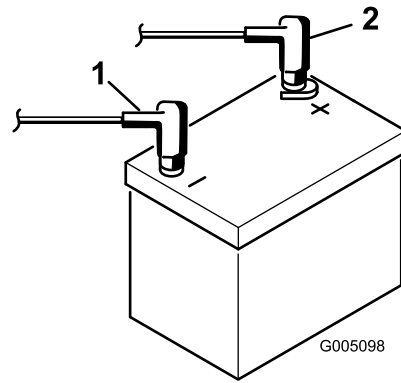

Figure 7
8. Install the positive cable (red) to the positive (+) terminal and then the negative cable (black) to the negative (-) terminal of the battery and secure them with the bolts and nuts (Figure 7). Slide the rubber boot over the positive terminal to prevent a possible short from occurring.